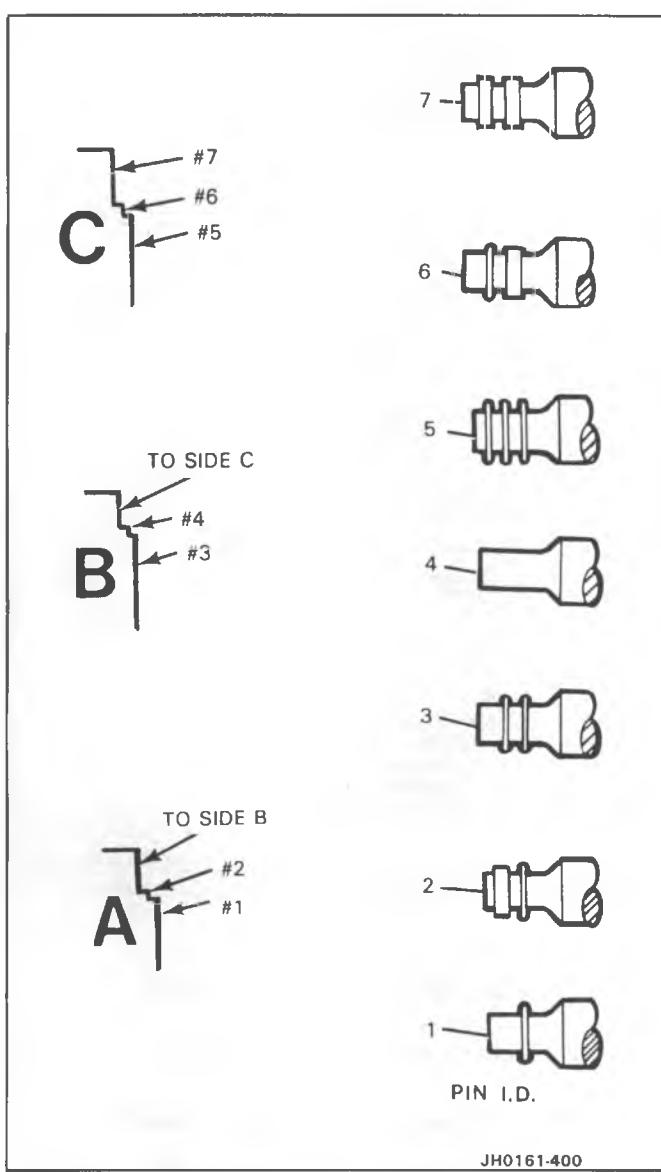

Figure 88 - Band Apply Pin Selection Chart
6. For pin selection, see Figure 88.